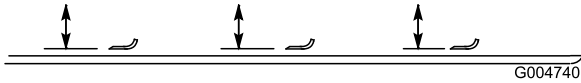

Figure 83
2. Rotate the blade until the ends face forward and backward (Figure 83). Measure from the inside of the cutting unit to the cutting edge at the front of the blade. Remember this dimension.